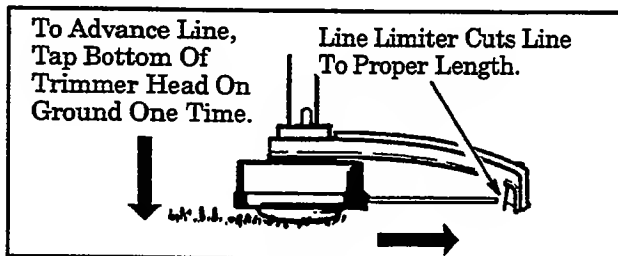

Figure 9
- Always keep the shield in place when the tool is being operated. Figure 9.
3. Tap bottom of trimmer head lightly on ground one time. Figure 9. Approximately 2" (5 cm) of line will be advanced with each tap.